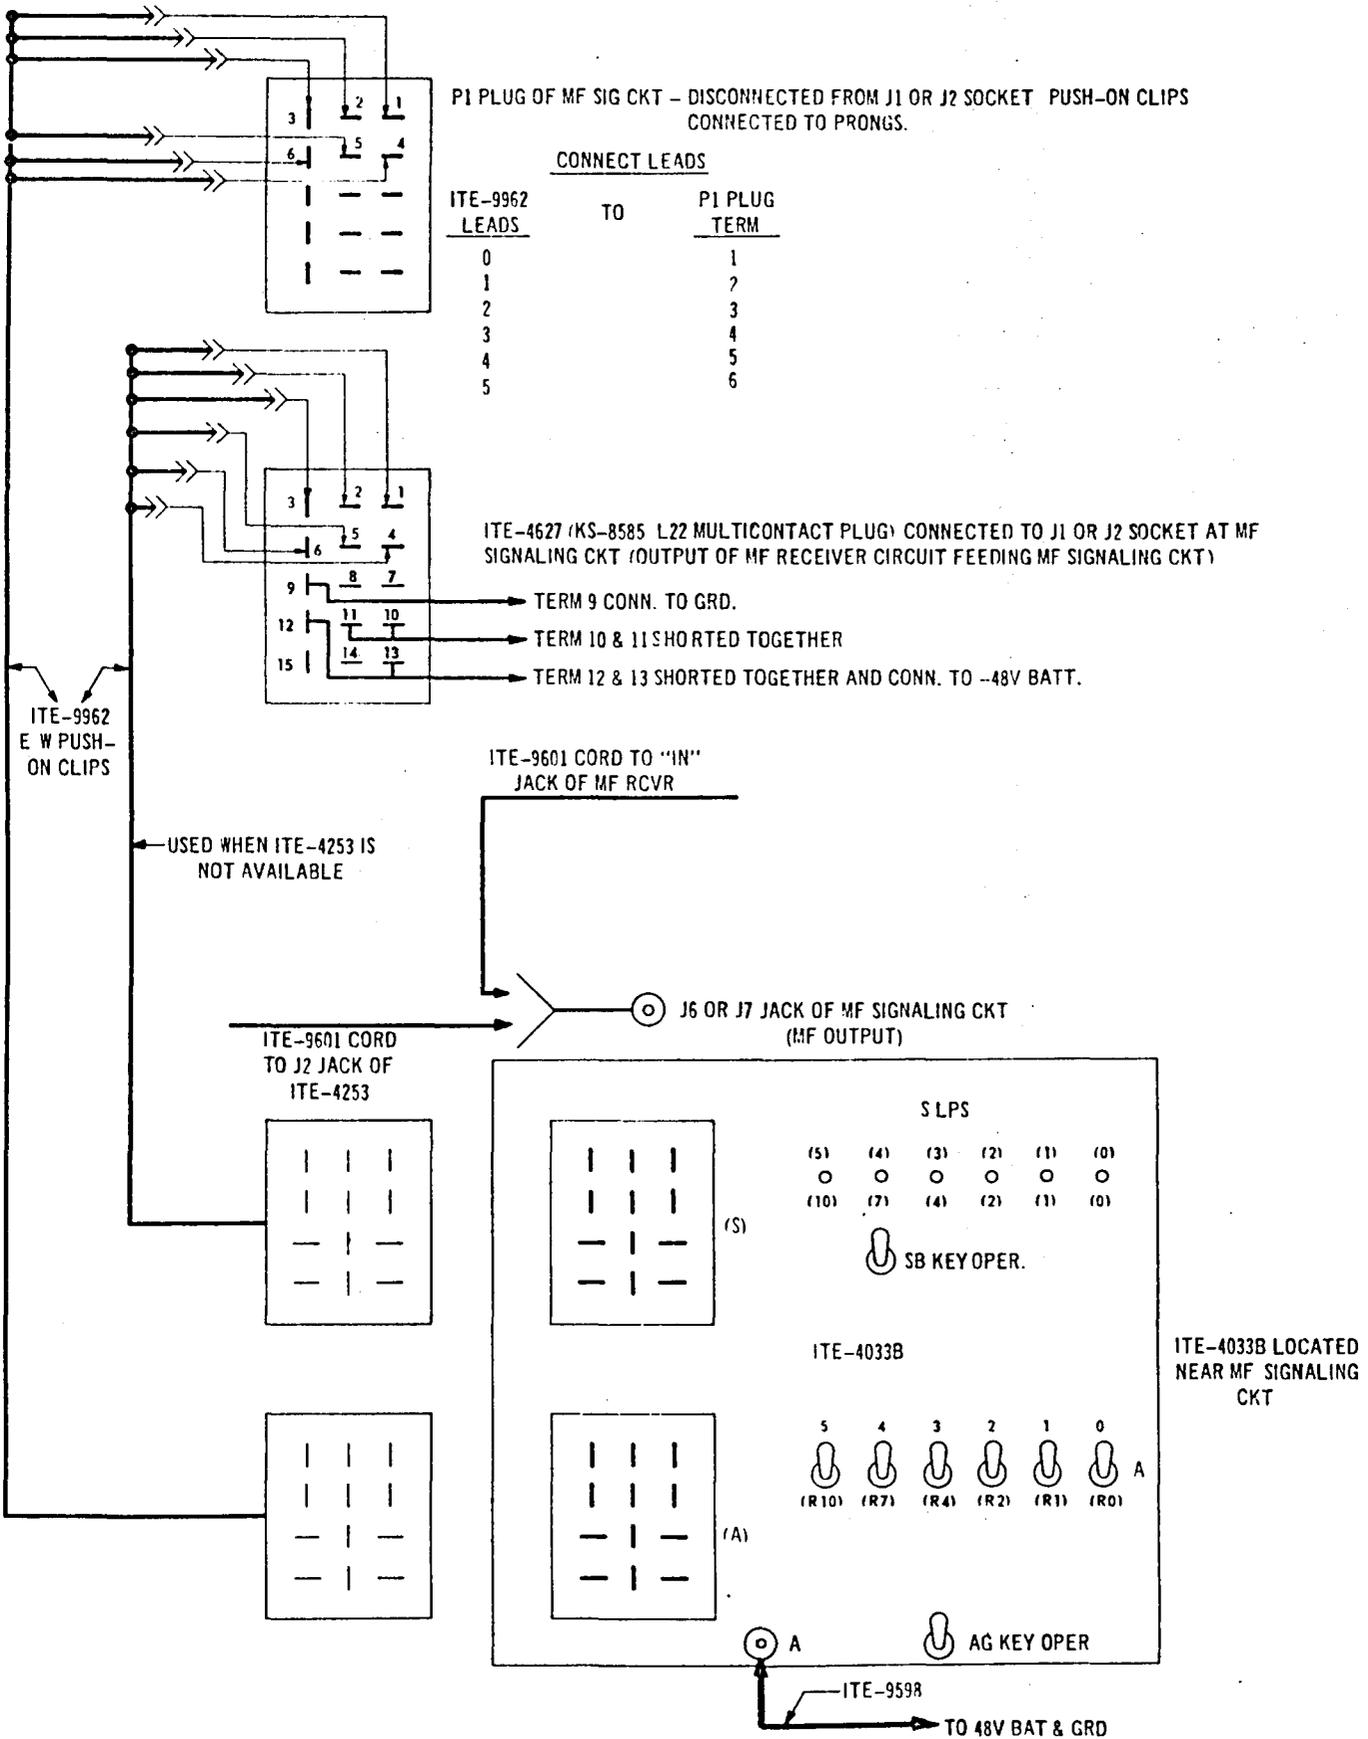

FIG. 1 TEST SETUP FOR OPERATION TESTS AT REMOTE END LOCATION
7.122 Block nonoperated relay CC1 at the MF unit. Using the test setup shown in Figure 1, connect the MF output of the Signaling Circuit (jack J6) to the input of the MF Receiving Circuit or to the input jack J2 of ITE-4253A.
8.12 At the MF Signaling Circuit, disconnect the P1 plug from the J1 or J2 multicontact socket. At the ITE-4033B, connect the socket of an ITE-9962 cord into the (A) plug on the test set. Insert ITE-4085 Push-On Clips into the ITE-2461 sockets of six leads at the other end of the cord and connect to the prongs of the P1 plug as shown below: (See Figure 1)
8.15 MF Signals Detected With Local MF Receiver (See Figure 1)
8.151 At the MF Signaling Circuit, connect an ITE-4627, 15-point blank multicontact Jones plug to the J1 or J2 socket for the working MF Receiver. Using an ITE-9962 cord, connect ITE-4085 Push-On Clips to the first six ITE-2461 sockets at one end of the cord. Connect the push-on clips to the wiring terminals of the ITE-4627 as shown in Figure 1. Connect sockets 0-5 to the 1-6 numbered terminals of the multicontact plug. Connect the socket end of the ITE-9962 cord to the (S) multicontact plug on ITE-4033B. Operate key SB on the test set. (See Figure 1).